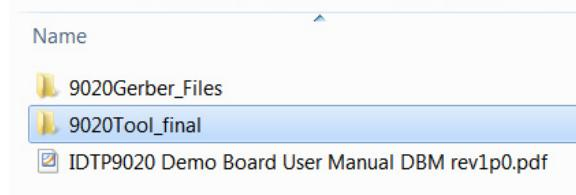

Figure 7. File folder structure on the CDROM.
3. Install the Wireless Power Demo Windows GUI software by executing the Setup.exe file from the CDROM in the folder “9020Tool\_final” (Figure 7).